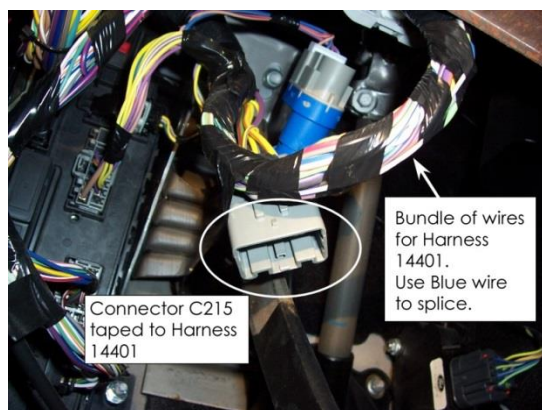
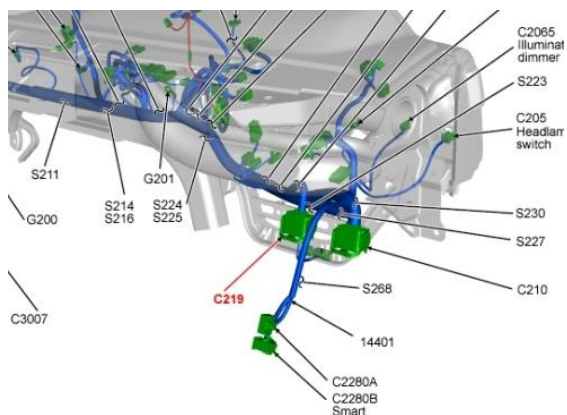

Figure 42. Under dash wiring. Note: Connector J31 not shown connected for clarity.
Figure 43. Connector C219 location under dash, driver side.
7. Locate Ford connector C219 and wire harness 14401 underneath driver side dash. See Figure 42 and Figure 43.